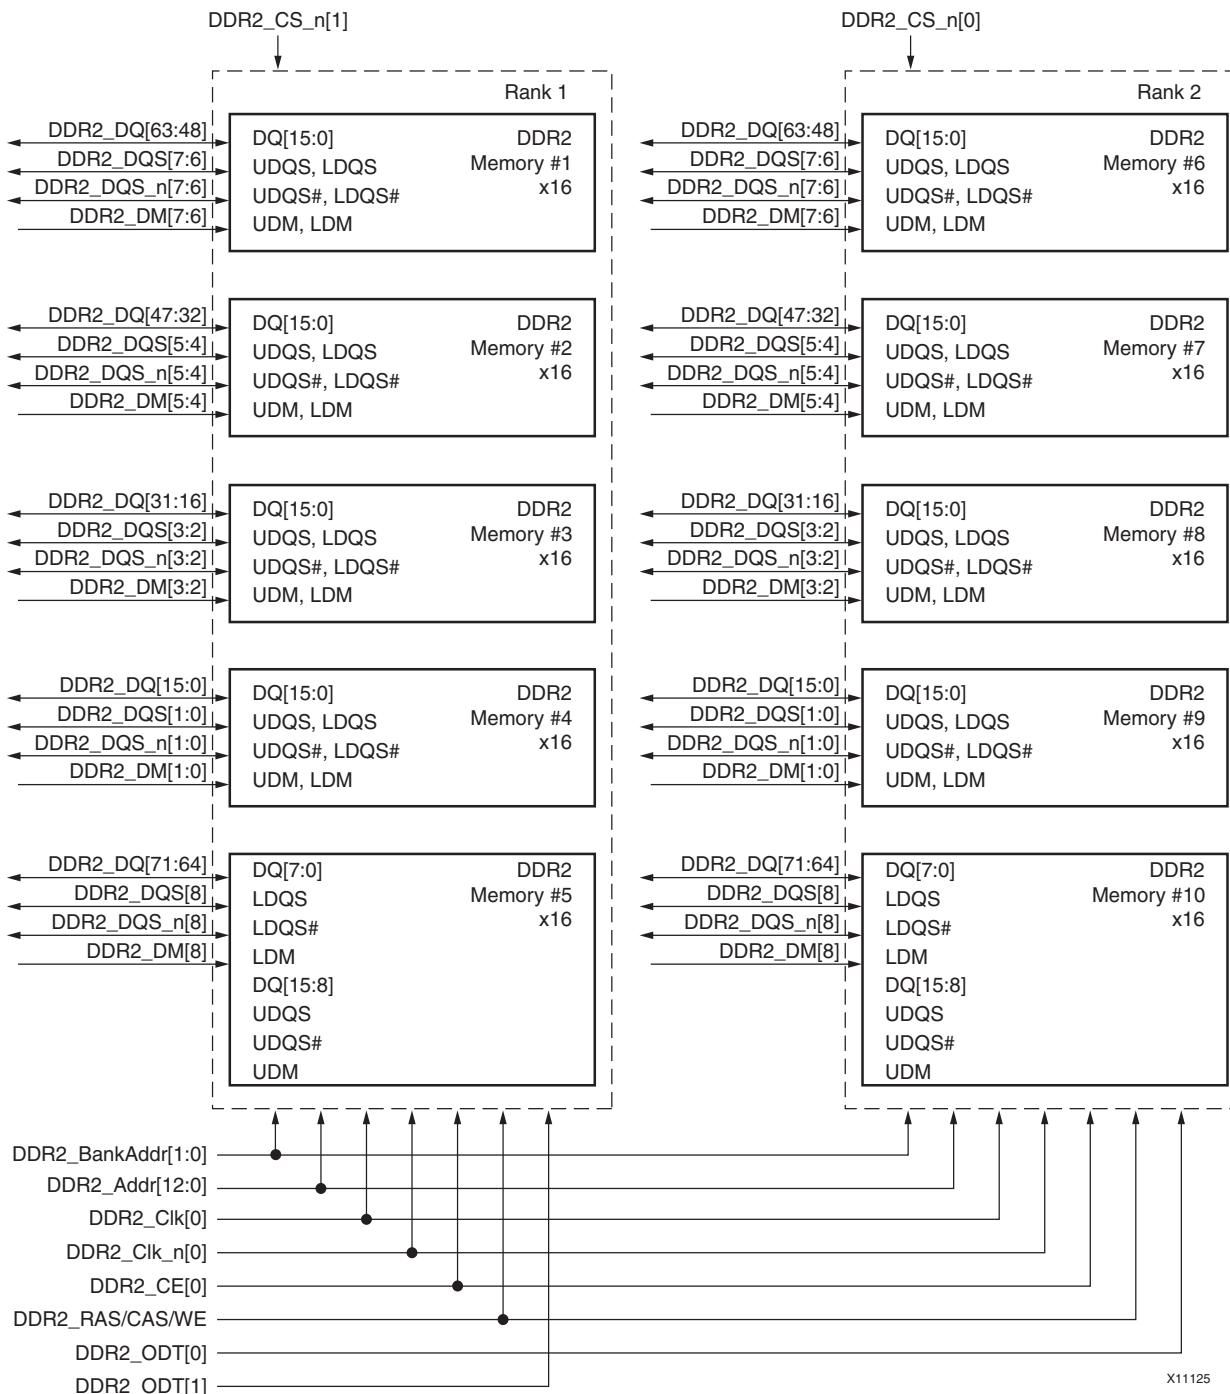

Figure 9: Example DDR2 Memory Connections
The example in Figure 9, page 96 has the following specified parameters:
- Within a particular rank, the signals `DDR2_CS_n` and `DDR2_ODT` are connected to each memory in the rank. Some memory manufacturers have specific recommendations for how these signals should be connected. For example, when using a dual rank DIMM, the recommendation might be to assert `DDR2_ODT` on the same rank that `DDR2_CS_n` is asserted (as shown in Figure 9, page 96). Other recommendations might be to assert `DDR2_ODT` on the opposite rank that the `DDR2_CS_n` is asserted, which can be achieved by swapping `DDR2_ODT[0]` and `DDR2_ODT[1]`.